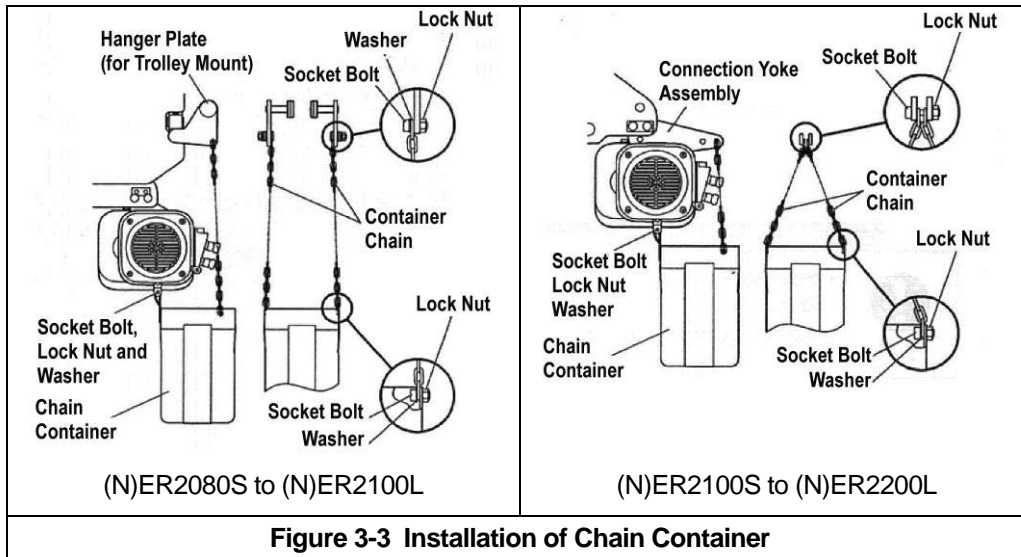

Figure 3-3 Installation of Chain Container
- 3.2.3 When the optional canvas chain container(s) is used, unfold it fully and install it on the hoist body(ies) as shown in Figure 3-3. In this case the free end of the chain is not attached to the hoist body and the chain stopper is installed on the third link from the free end. To place the chain into the chain container(s), feed the chain into the chain container(s) beginning with the free end. Take care to avoid twisting or tangling the chain. NEVER put all the chain into the container(s) at once. Lumped or twisted chain may activate the down limit switch and stop the hoist during lowering.